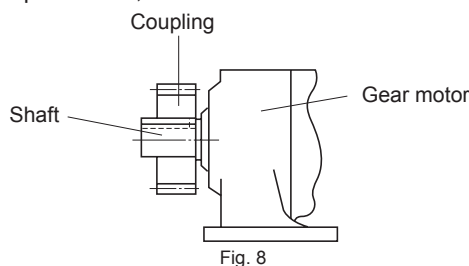

Fig. 8
- Ensure that the load application point of the sprockets and gears is located closer to the gear motor side from the shaft center. (See Fig. 8)